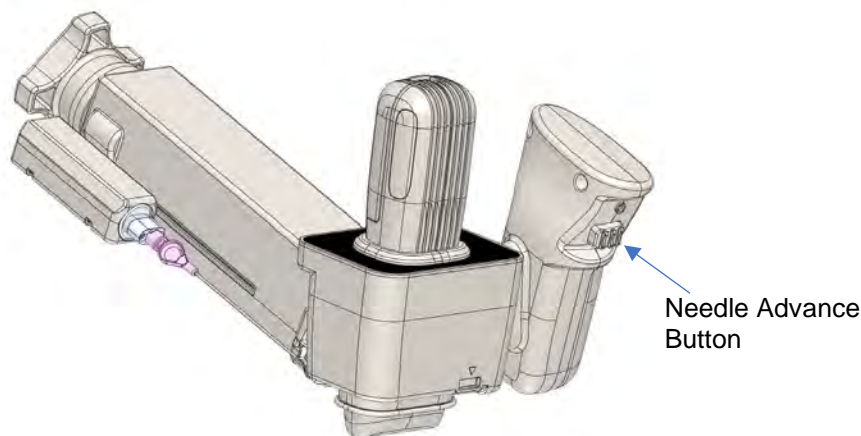

Figure 23. Needle Advance Button.
4. To advance the TearDrop Needle, press and hold the Needle Advance Button. The vibration motor will activate, and the needle will simultaneously advance to the targeted location. (Figure 23)